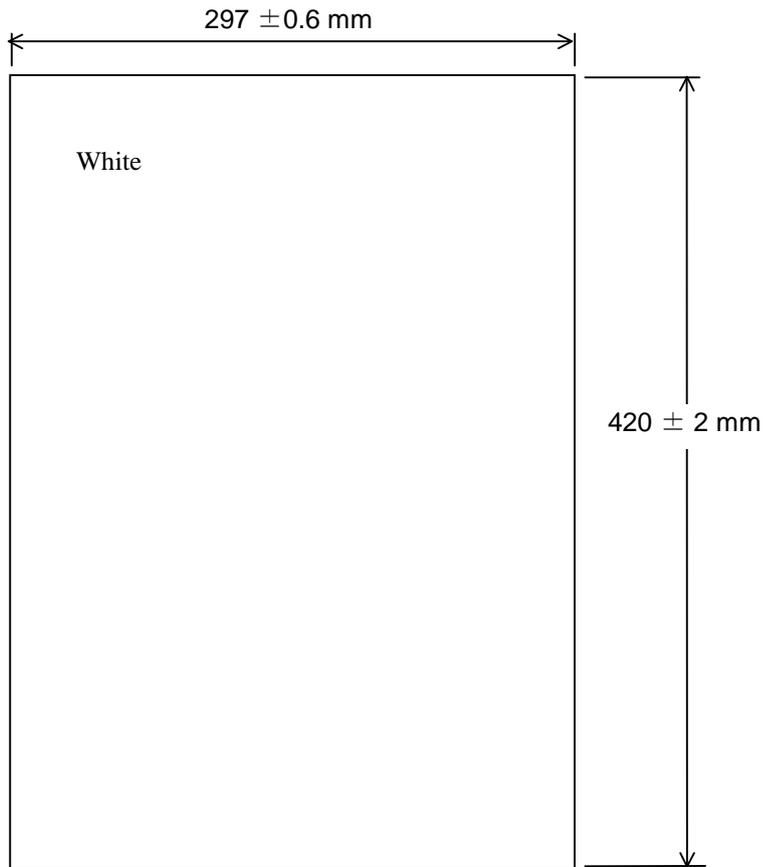

Figure 7.1.3 Magnification / Offset Adjustment Test Sheet
Before this adjustment, obtain the Test sheet described in the figure 7.1.3. This is an A3 size sheet of paper.
(2) Set a white A3 size sheet (Figure 7.1.3) on the ADF paper chute in Portrait orientation, and adjust the sheet guide to the width of the sheet.
- 2) Before this adjustment, obtain the Test sheet described in the figure 7.1.3. This is an A3 size sheet of paper.
- (2) Change the selection by pressing the **Function** (Δ or ∇) button.
- (3) Set a white A3 size sheet (Figure 7.1.3) on the ADF paper chute in Portrait orientation, and adjust the sheet guide to the width of the sheet.